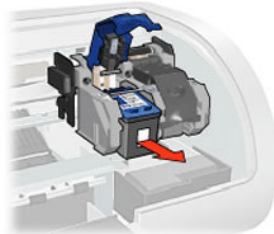

Fig. 8
4. Slide the print cartridge out of the cradle (Fig. 8)